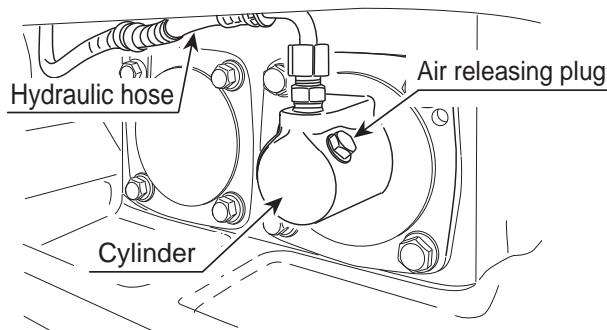

Figure 30. Removing Hydraulic Hose
3. Remove the hydraulic hose connected to the cylinder on the vibrator side (Figure 30).
9. Remove the air releasing plug of vibrator cylinder. Oil will then come out from the air releasing plug. After air bubbles stop coming out, reattach the plug. Tighten securely (Figure 30).